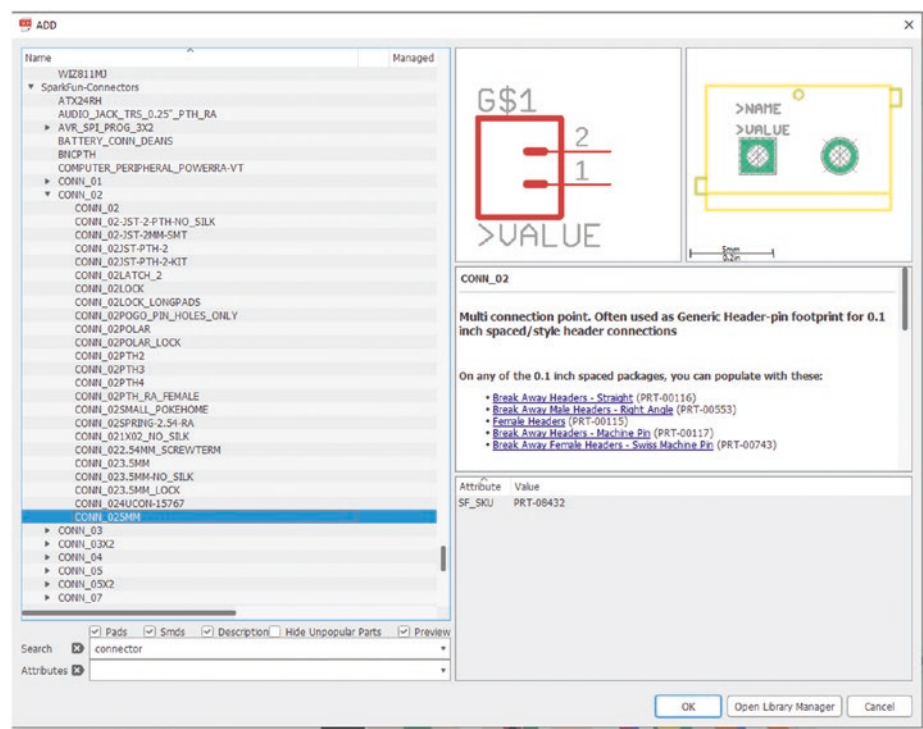

Figure 5-36. Select the 5mm terminal block
23. Scroll to the SparkFun-Connectors drop-down; then select the CONN-02 drop-down. See Figure 5-36.